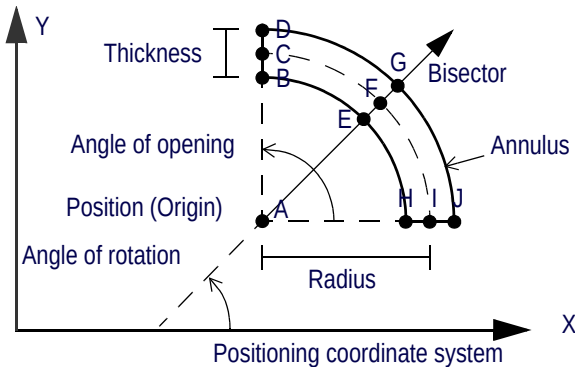

Figure 300 Arc Edge Locator — Adjusting the Sector
- Move the Sector by dragging its border or its origin located at the intersection of its two bounding radii shown with dotted lines. Handle *A* in Figure 300.
- Adjust the Sector's radius by dragging its center located at the intersection between the bisector and the median annulus. Handle *F* in Figure 300.
- Set the Sector's thickness by dragging any of its four resizing handles located at intersections between its two bounding radii and annuli or by dragging the two resizing handles located at the intersections of the bisector and the two bounding annuli. Handles *B*, *D*, *E*, *G*, *H*, and *J* in Figure 300.
- Set the Sector's opening by dragging any of its four resizing handles located at intersections between its two bounding radii and annuli. Handles *B*, *D*, *H*, and *J* in Figure 300.
- Rotate the Sector by dragging the two intersections between the median annulus and the two bounding radii. Handles *C*, and *I* in Figure 300.